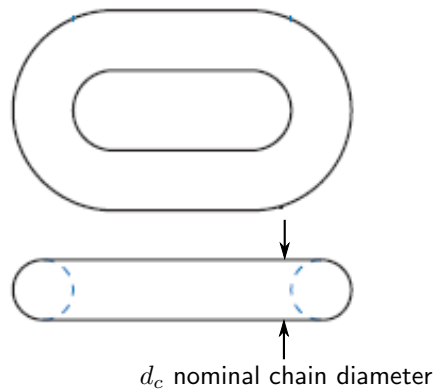

Figure 54: Nominal diameter of studless chain
- The characteristic diameter used in ProteusDS is different from the nominal diameter reported by the manufacturer. Nominal diameter referred to by the manufacturer is the diameter of the bar used to make the chain. This can be seen in Figure 54.